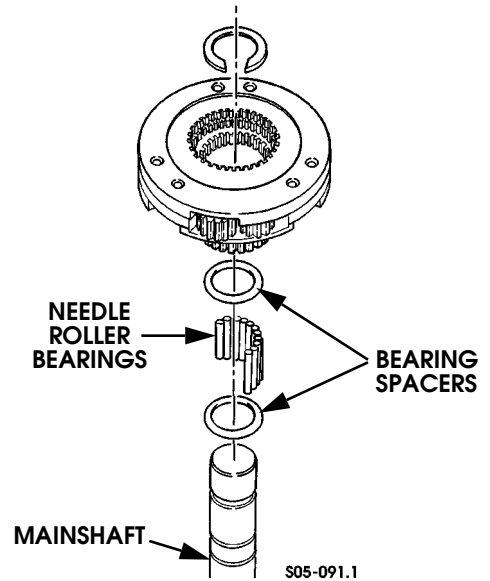

Figure 5-106: Mainshaft Bearing and Spacer Removal
- 27. Remove mainshaft needle roller bearings and spacers (Figure 5-106).